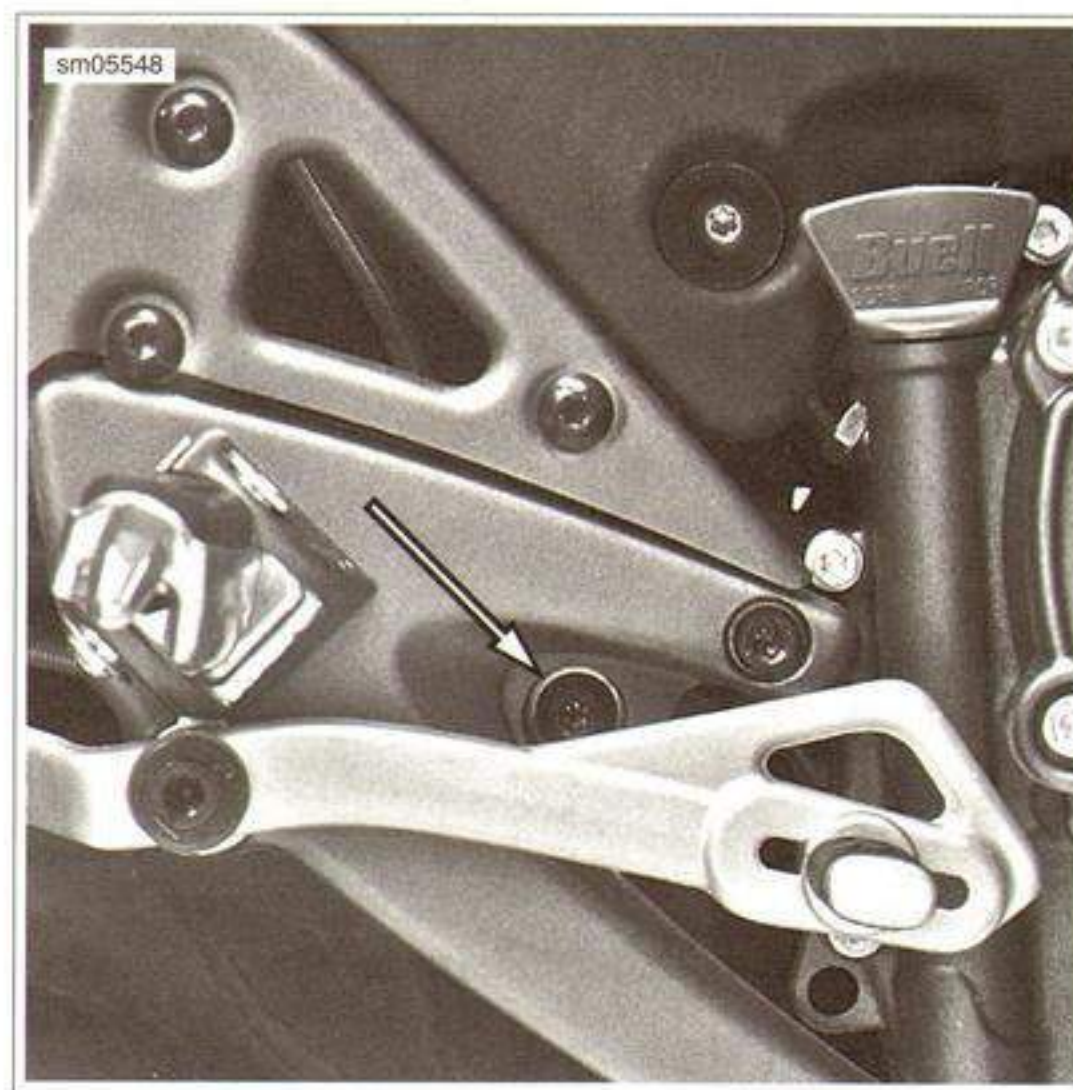

Figure 4-47. Muffler Bolt through Footpeg Mount
4. See Figure 4-47. Remove the muffler bolt in the right side rider footpeg.